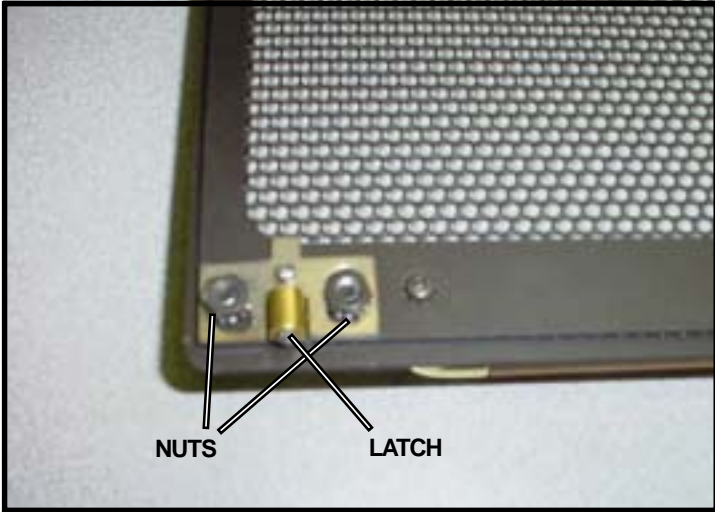

Figure 3 Latch height adjustment (back side of door)
7. Reinstall door frame and doors. Adjust height of latches by loosening two nuts on either side of latch and raising or lowering latch as needed (see Figure 3).
10. To make doors operable, remove ball latch brackets using a 3/8" socket wrench and re-attach (see Figure 3). Doors may need to be adjusted by either sliding the bracket up or down and/or adjusting the hinges on the back of the doors.